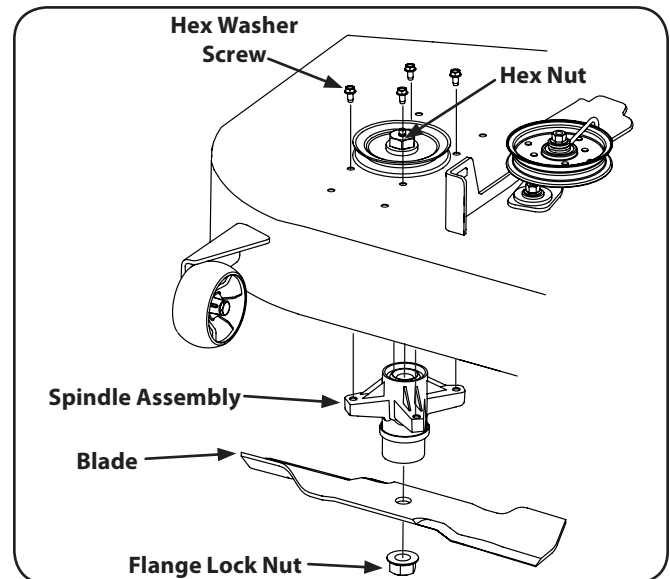

Figure 7-13
2. Use a $\frac{3}{4}$ " wrench to hold the hex nut on top of the spindle assembly when loosening the hex nut securing the blade. See Figure 7-13.
2. Remove the hex washer screws securing the belt covers to the deck and remove the belt from the spindle pulleys. Refer to Figure 7-13.